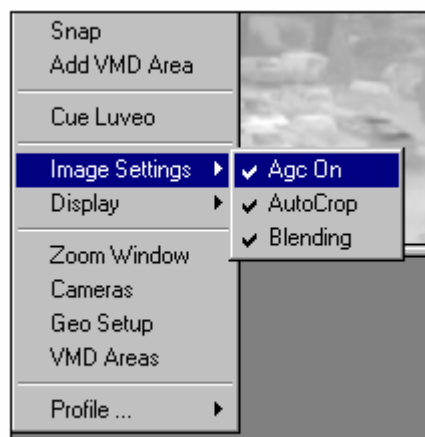

Figure 15 – Blending Images
10. Repeat step “9” by selecting **Image Settings, AutoCrop**. This option hides the spare black regions on the video, caused by video “Correction Y” offset. See Figure 15 – Blending